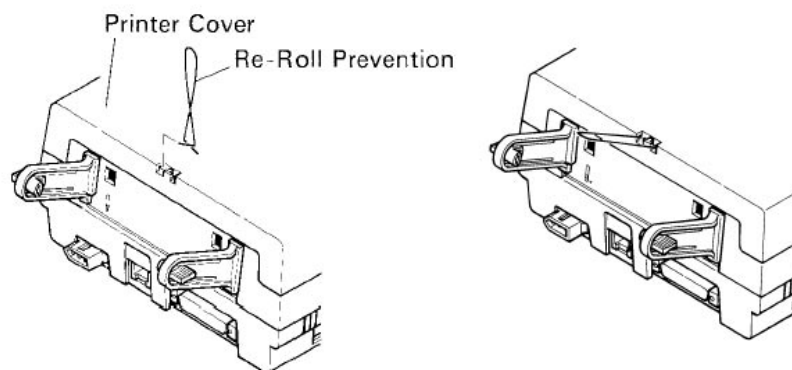

Figure 1-4. Installation of Re-Roll Prevention
2. Install the Re-Roll Prevention Wire in the holes of the printer cover. Twisting the wire as shown in Figure 1-4, will make the installation easier.